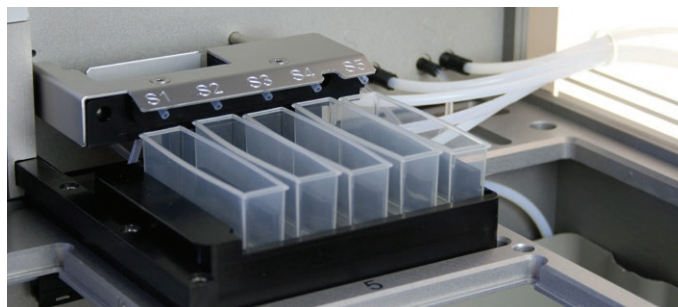

Figure 5. The solvent feeder in position.
28. Place the solvent rack with five new, empty solvent reservoirs in position **5** on the working area. Ensure that the solvent feeder is pulled out into the correct position; see Figure 5.